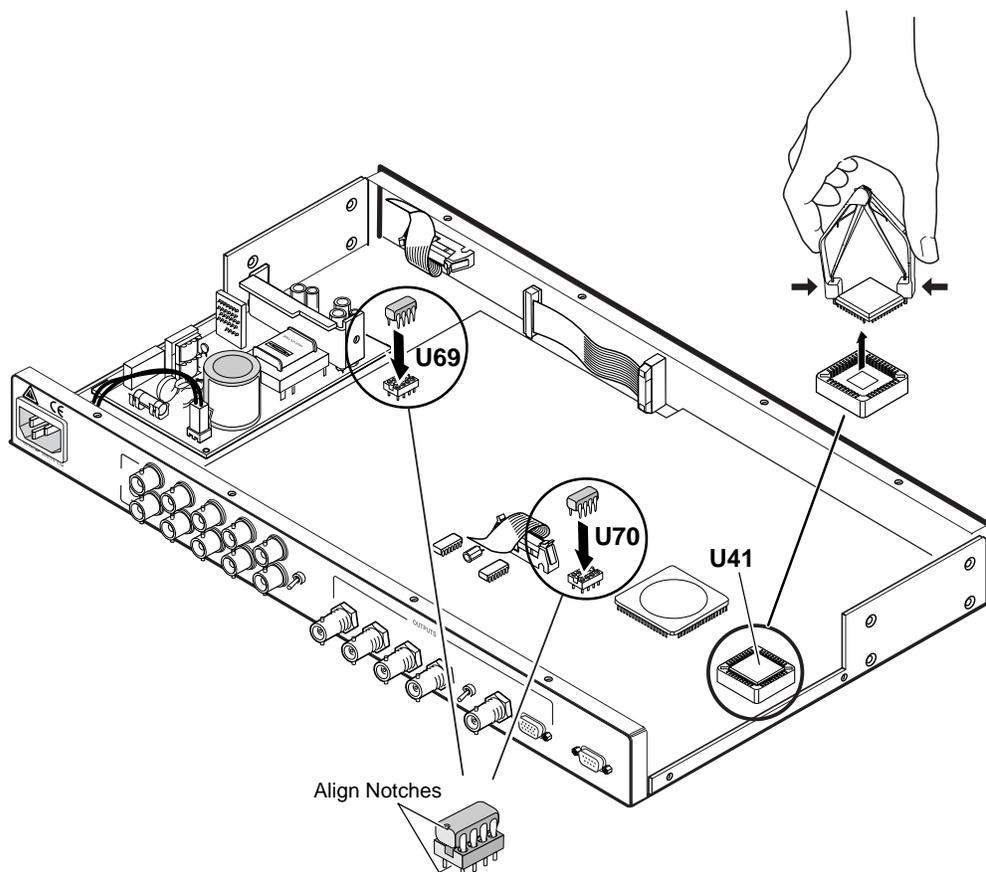

Figure 13 — Locating and replacing ICs
2. Locate the ICs to be replaced (see figure 13). The update kit will list the specific ICs.